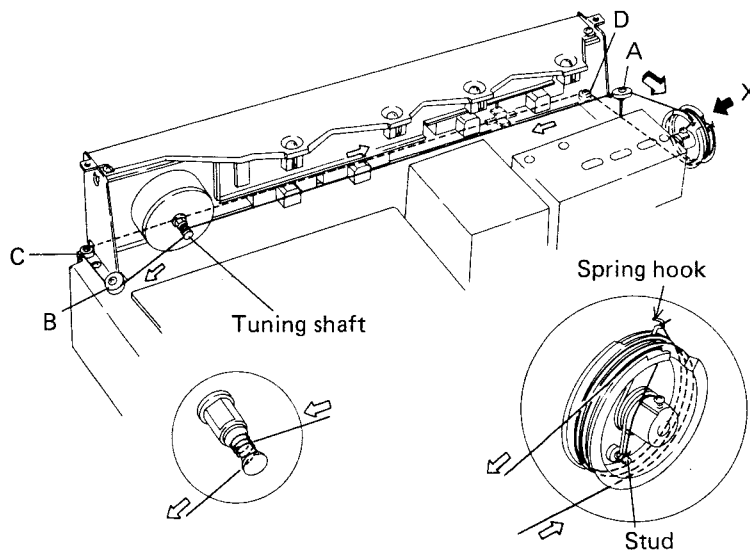

Fig. 9-4
3. Turn the tuning drum around in the clockwise direction (as viewed from the X direction in Fig. 9-4) as far as it will go.